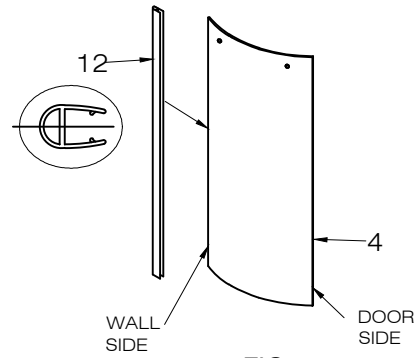

FIG. 3
5. Place the seal strip (#12) from the wall side of the fixed panel (#4). [See FIG.3]